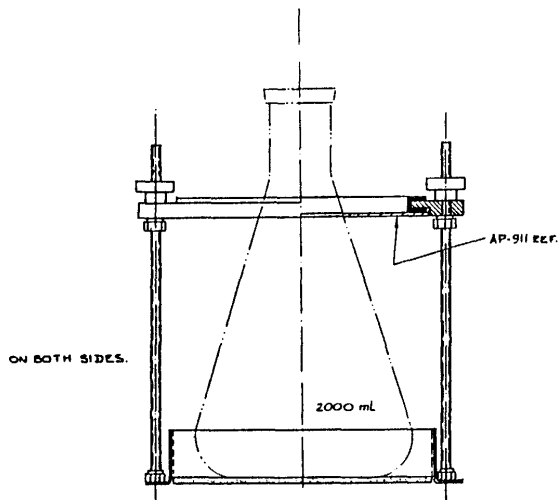

Figure 2
- ▶ For use with two- and one-liter flasks, install the Filter Flask Attachment disc, model 45-9315/12 (AP-911), in the recess of the upper clamp. See Figures 2 & 3.